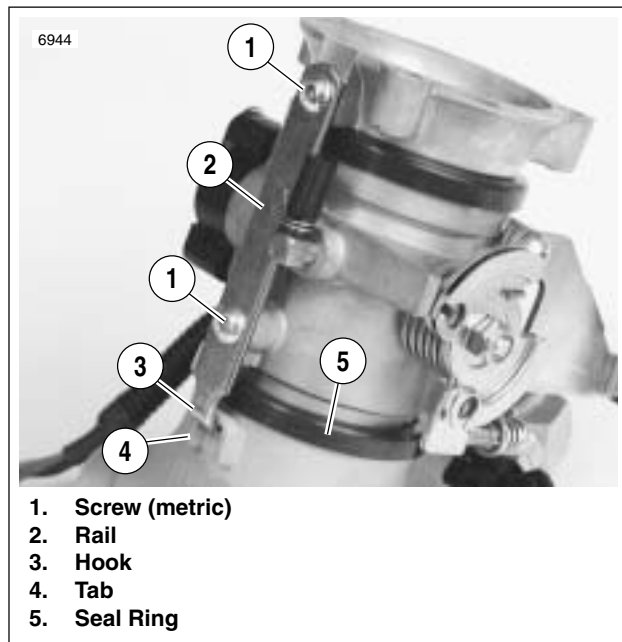
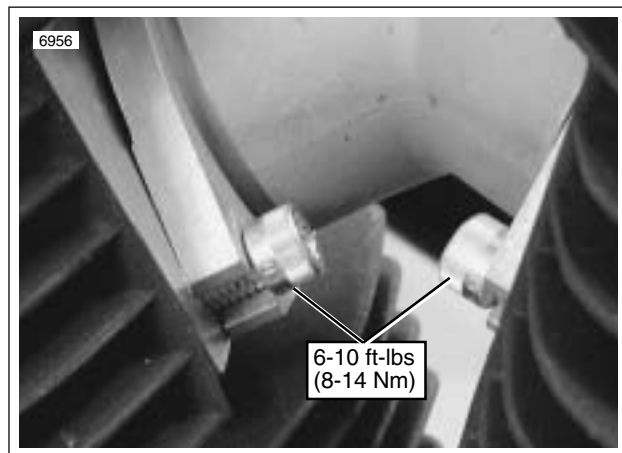

Figure 4-106. Front Portion of Throttle Body
Figure 4-107. Intake Flange Screws, Primary Cover Side
- a. See Figure 4-106. If front portion of throttle body was removed, lubricate surface of seal ring (5) that will contact manifold.
- c. Place hook (3) on bottom rail (2) over tab (4) on manifold. Secure with two screws (1) (metric).
- a. See Figure 4-107. Standing on the gearcase cover side of the vehicle, slide the assembly toward installed position. Manifold should slide over screws on primary cover side of engine.